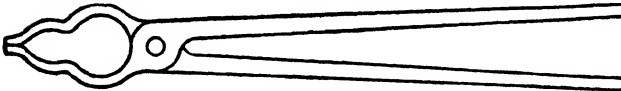

FIG. 7
6. Figs. 3, 4, 5, and 6 show common types of tongs. For special types of work use tongs designed for that particular kind of job. Figs. 7, 8, 9, and 10.